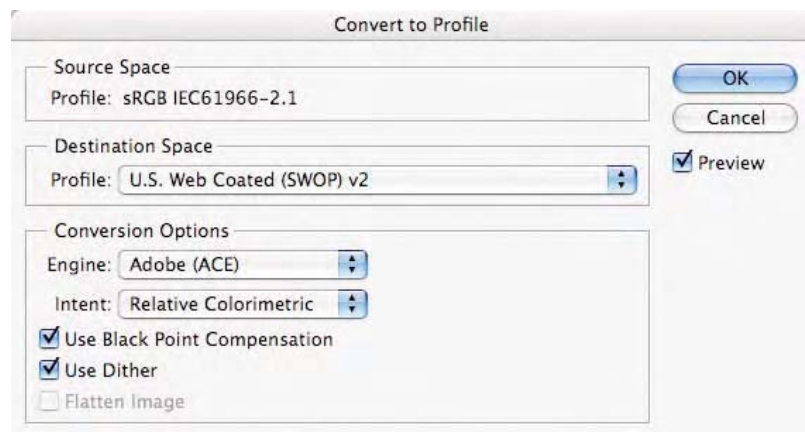

Fig. 9-6-9 The **Convert to Profile** command should be set as seen here.
2. Choose **Image-Mode-Convert to Profile** in Photoshop CS or **Edit-Convert to Profile** in CS2 as seen in Fig. 9-6-9.